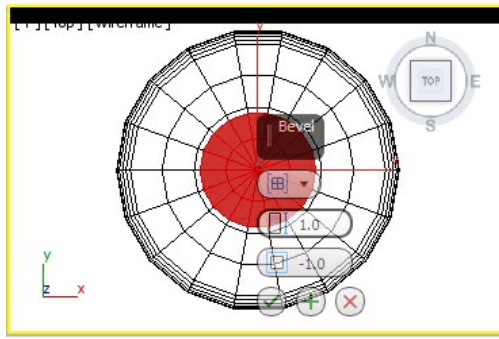
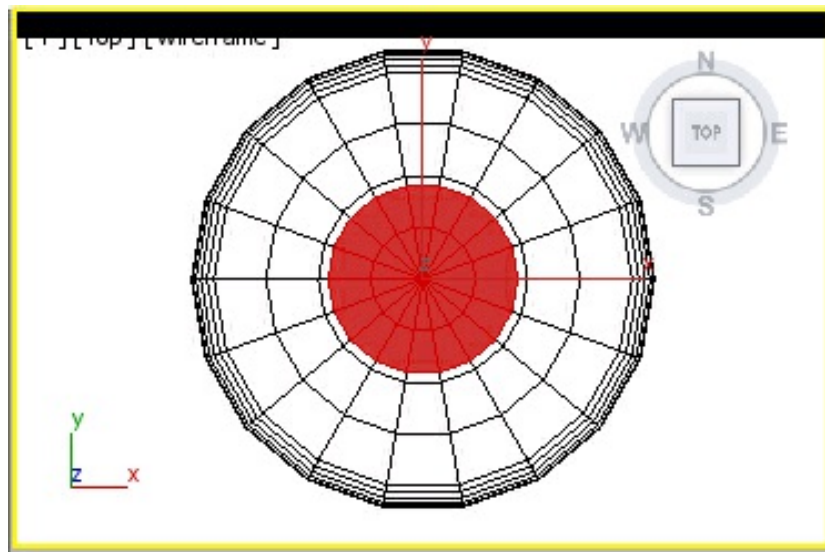

Figure 8-146 The value set in the **Height** spinner of the **Bevel** caddy control
Figure 8-147 The selected polygons in the Top viewport after extruding and beveling
13. Choose the **Settings** button on the right of the **Bevel** button; the **Bevel** caddy control is displayed in the viewport. Set the value **1.0** in the **Height** spinner, refer to Figure 8-146, press ENTER, and choose **OK** twice to close the caddy control; the support is displayed in viewport. Figures 8-147 and 8-148 shows the support displayed in the Top and Perspective viewports, respectively.